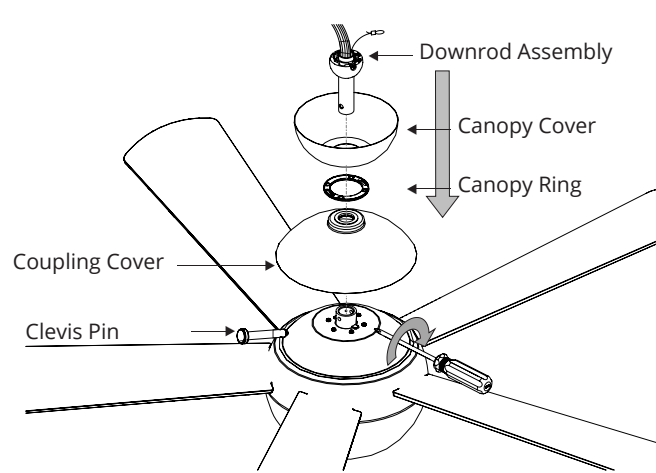

FIGURE 16
1. Remove the clevis pin and cotter pin and loosen the two collar screws from the motor collar (Fig. 16).
4. Thread the downrod assembly onto motor collar. Align the holes of downrod and collar and insert the cotter pin and clevis pin. Tighten the two collar screws (Fig. 16).